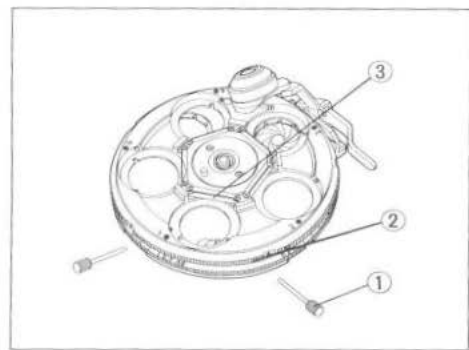
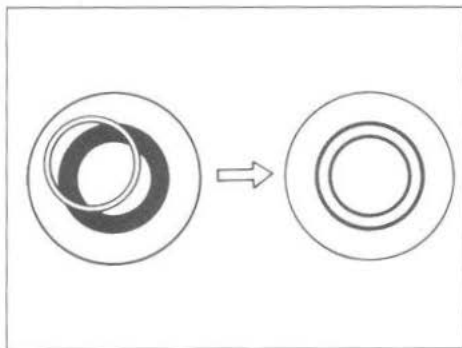

Fig. 3
Fig. 12
(3) Use the two centering wrenches (1) to loosen the two centering screws (2) completely. (Fig. 3)
(4) Insert the phase contrast ring attachment or darkfield ring attachment in an aperture of the turret as far as it will go. Slightly depress the leaf spring (3) provided inside the turret with the side of ring attachment while inserting. (Figs. 3, 4)
- (1) Rotate the upper turret to engage the darkfield ring attachment (BH2-UDA).
- (2) Rotate the lower turret counterclockwise to disengage the polarizer from light path.
- (3) Mount the objective to be used in the revolving nosepiece and rotate the revolving nosepiece to swing in the objective.
- (4) Rotate the aperture iris diaphragm adjustment ring clockwise to fully open the aperture iris diaphragm.
- (5) Place the specimen on the stage and move the stage up and down to bring the specimen into focus.
- (6) Remove an eyepiece from the eyepiece sleeve, and look at the objective pupil. Center the darkfield ring attachment using the centering wrenches ①, as shown in Fig. 3.
- (7) Insert the eyepiece into the eyepiece sleeve and look at the darkfield image. Repeat centering until the quality of darkfield image is maximized.
- (8) Move the condenser up and down until a uniform darkfield illumination is attained.
- (9) Open the field iris diaphragm to the extent that even brightness is attained.
- (8) Use the centering wrenches ①, as shown in Fig. 3, to center the phase contrast ring attachment so that the bright ring overlaps the dark ring within the field of view. (Fig. 12)